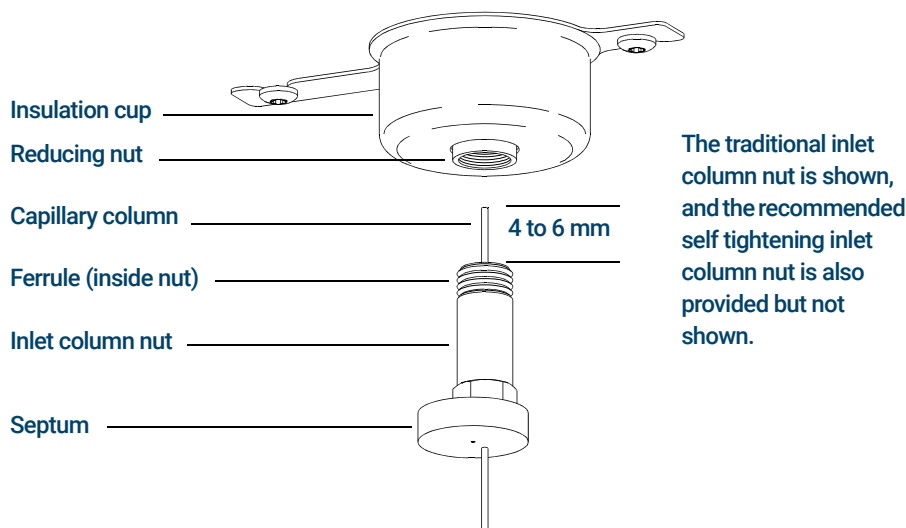

Figure 20. Installing a capillary column for a split/splitless inlet
- 7 Position the column so it extends 4 to 6 mm past the end of the ferrule. (See **Figure 20**.)